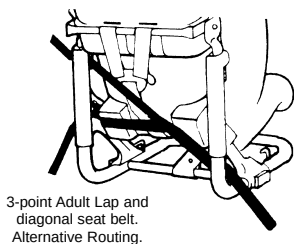

Fig 2
- Place the Child Safety Seat in the recline position in any passenger seat which has a 3-point adult lap and diagonal belt fitted (Fig 2). Pass the adult seat belt between the seat moulding and frame (Fig 2), fasten the seat belt. Now open the red lock off belt guide and place the diagonal belt under the red lock-off belt guide nearest to the side of the vehicle and make sure that the lap section of the adult 3-point lap and diagonal belt passes in front of the red lap belt guides. If necessary kneel on the Child Safety Seat to push it into the vehicle seat, pull the diagonal belt up and ensure that both the lap and diagonal sections are tight, then push the red lock-off guide in to grip the seat belt.